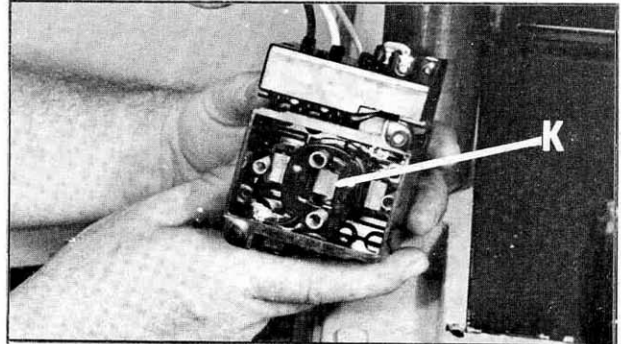

Fig. 34
7. Pull out, disconnect leads, and remove 220 Volt coil (K) Fig. 34.